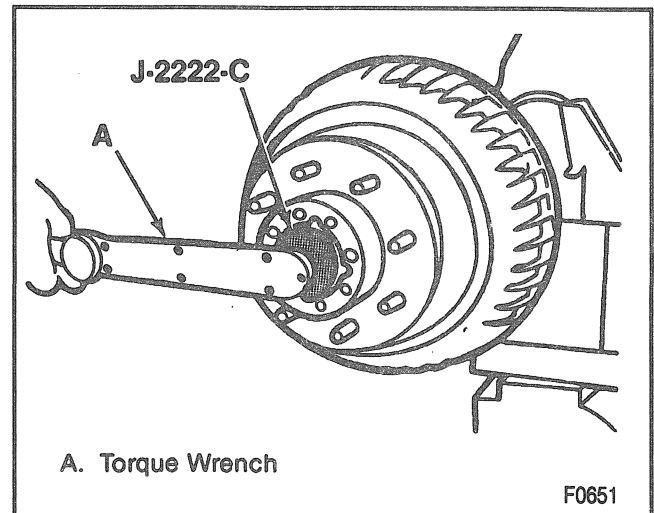

Figure 24—Tightening the Adjusting Nut
- Adjusting nut to 68 N.m (50 lb. ft.) while rotating hub and drum assembly (Figures 24 and 25).